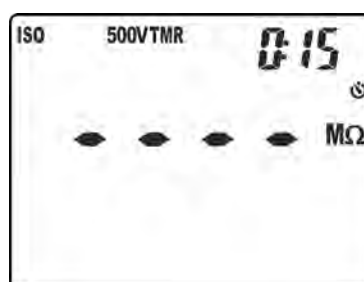

Fig. 20: Setting the measuring time in TMR mode
5. Press keys **▼/⚡** or **▲/ZERO** to select the measuring time (timer) choosing among the options: **15s, 30s, 1min, 5min, 10min**. Please note the value in the top part of the display on the right (see Fig. 20).
5. Press keys **▼/☒** or **▲/ZERO** to select the measuring time (timer) choosing among the options: **1min** (for DAR measurement) or **10min** (for PI measurement). Please note the value in the top part of the display on the right (see Fig. 20).